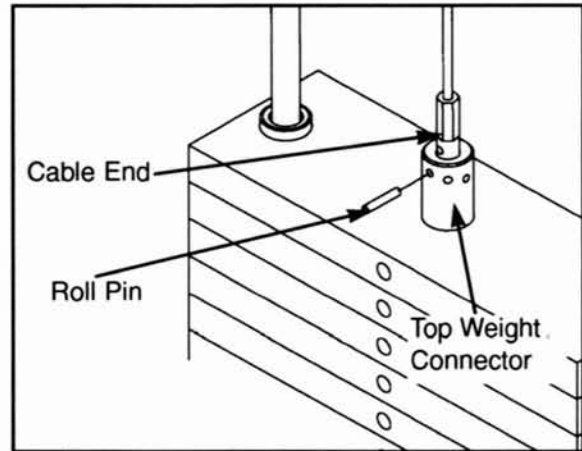

Figure 8
3. **Roll Pin Adjustment** - This type of adjustment utilizes a roll pin and series of holes in the weight stack top plate connector. See Figure 8.